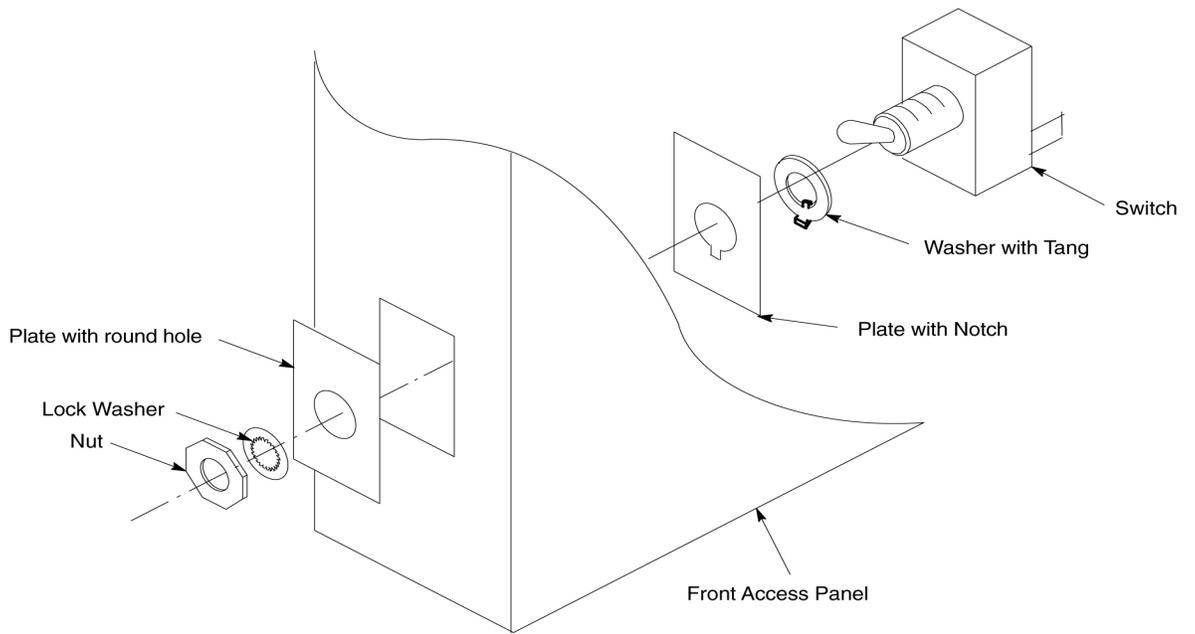

Figure 3. New Switch Installation
7. Align the switch and the mounting plates so the entire rectangular hole is covered. The switch and the front plate should be vertical or parallel with the front of the access panel. See Figure 3.